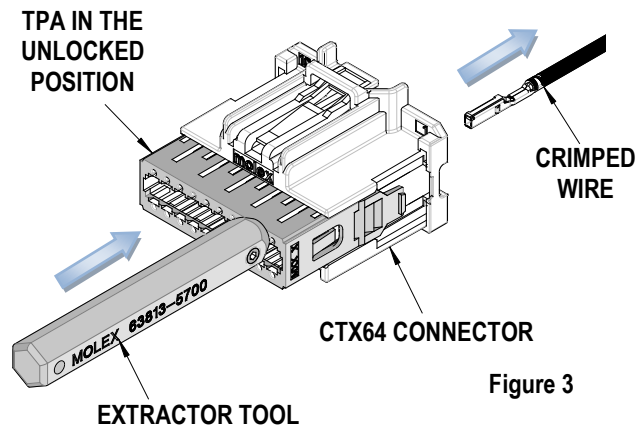

Figure 3
7. Holding the extractor tool against the housing, gently pull the crimped wire out of the connector. See Figure 3.